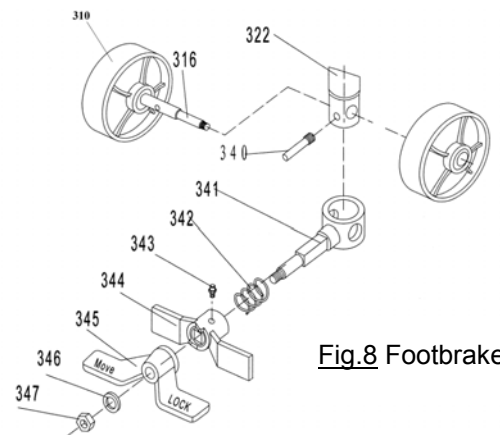

Fig.8 Footbrake
To apply the brake step on the “LOCK” side of the Brake plate (fig. 8, pos.345) until its angle is 45°. To release the brake step on the “MOVE” side of the Brake plate (fig. 8, pos.345) until it is in horizontal position.